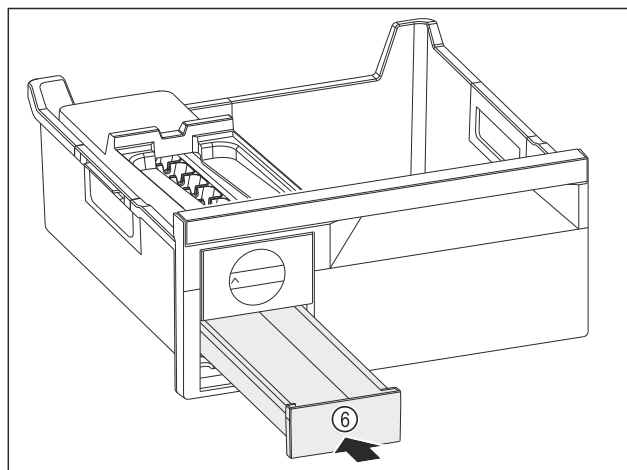

Fig. 83
- ▶ Insert the ice cube drawer Fig. 83 (6).